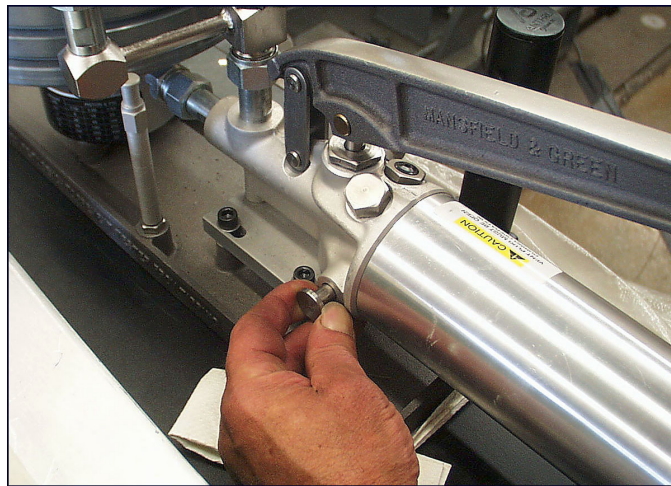

Figure 12
- 117 Pull the valve rod to the “out” position. The valve rod is located on the left side of the Pressure Determination System. See Figure 12.